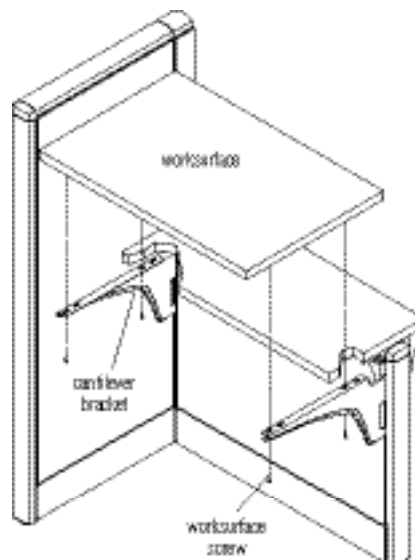

Figure 2
6. Carefully position the worksurface onto the cantilever brackets and attach using four worksurface screws (Figure 2).